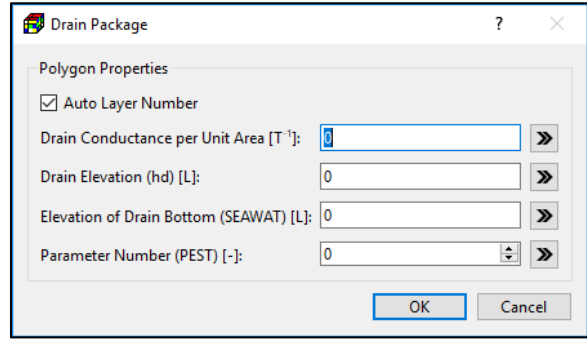

Figure 53. The Drain Package dialog box for specifying polygon properties
3. **Polygon input method:** Figure 53 shows the dialog box that is used to specify polygon properties. The polygon data may be assigned to model cells following the rules described in Section 3.4.2.3 and the rules below.